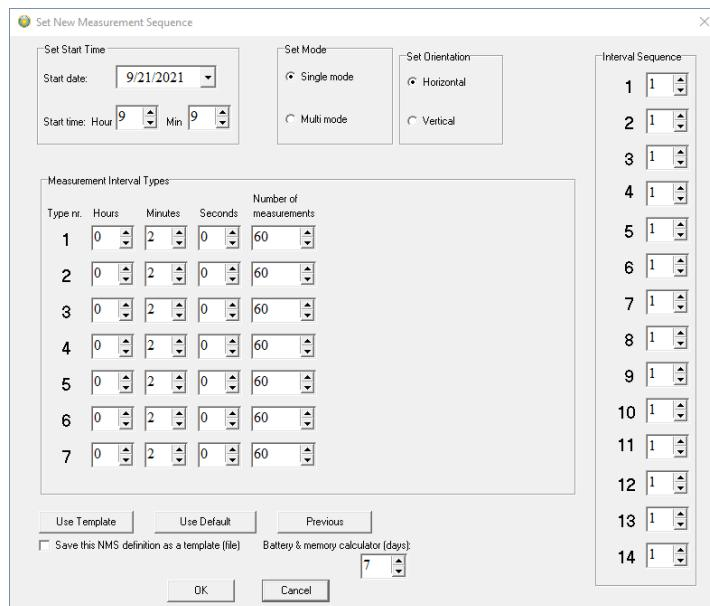

Figure 7.7: Setting new Measurement Sequence (with multiple intervals)
- **Interval Sequence 1-14:** The interval sequence must be filled out. As shown in figure 7.7, the user selects to use intervals 1-7 for the recordings. Another example: Suppose two of the first sampling intervals are used. In that case, the sequence should be 1, 2, 1, 2, etc., meaning that the recordings shift between the first and the second intervals, recording the defined number of measurement for the first interval, and then shifting to the second interval taking the number of measurements defined. The shifting between the intervals repeats until memory is full or until a connection is made through a PC computer.